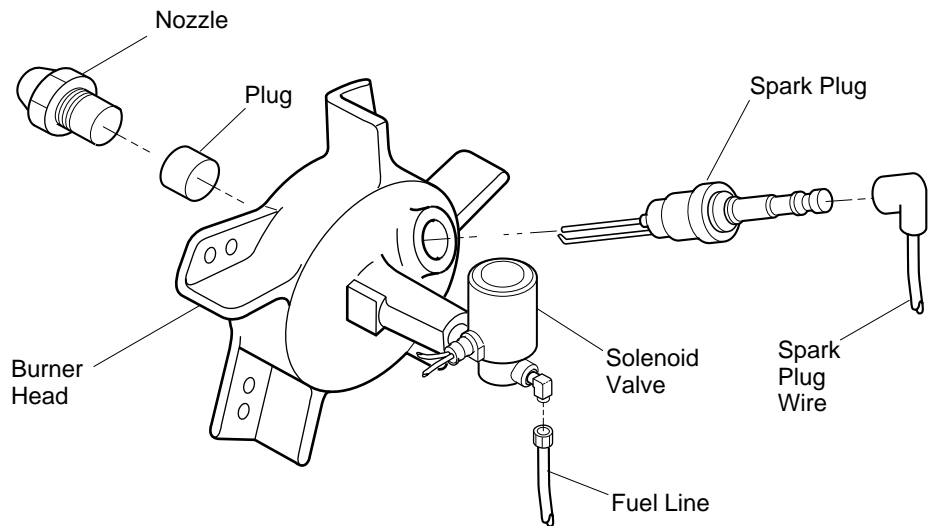

Figure 9 - Replacing Nozzle
5. Remove five (5) screws using 5/16" nut-driver and remove burner head from combustion chamber.
7. Carefully remove nozzle from burner head using 5/8" socket wrench (see Figure 9).